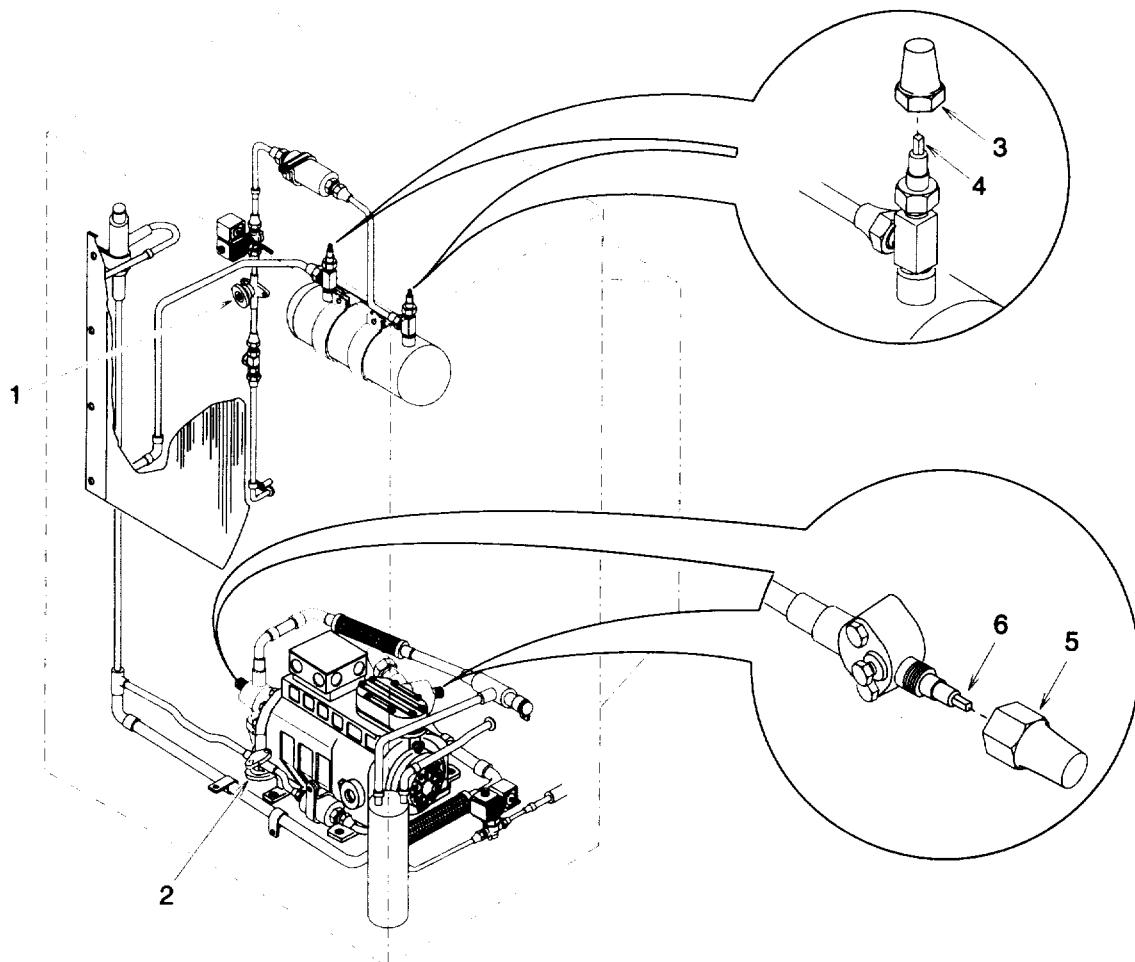

Figure 4-4. Refrigeration Valve Settings for Normal Operation
- b. Fully open both stop valves (1, fig. 4-4) and (2).